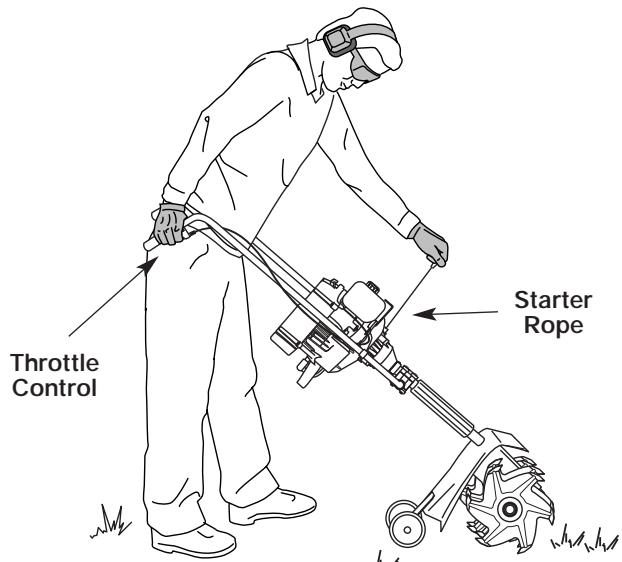

Figure 17
**WARNING:** Avoid accidental starting. Make sure you are in the starting position when pulling the starter rope. See Figure 17. To avoid serious injury, the operator and unit must be in a stable position while starting.
5. With the unit in the starting position (see Figure 17), squeeze the throttle control to the wide open (full throttle) position. Pull the starter rope briskly 5 times while still in the **FULL** choke (**A** |---|) position. If the engine attempts to run before the fifth pull, proceed to step 6.
7. Pull starter rope 1 to 3 times, briskly, to start the engine. See Figure 17.
1. Release your hand from the throttle control. See Figure 17. Allow the engine to cool down by idling.